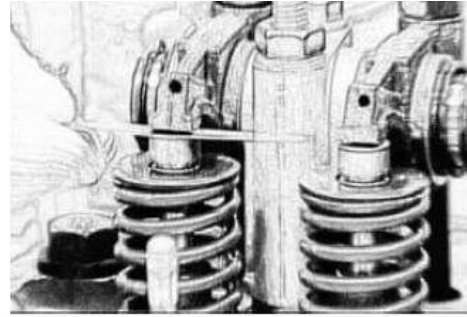

Fig 5-19 Valve Clearance Measured by Proof Stick
2.8 The valve sequence is; counted from front side of the engine, odd number is Intake valve, even number is exhaust valve. Intake valve clearance is 0.3 ~ 0.4mm, Exhaust valve clearance is 0.4~ 0.5mm (see Fig 5-19).